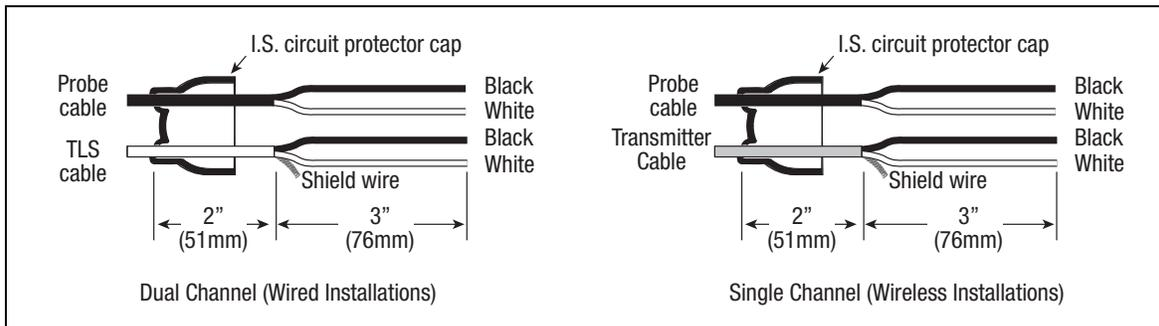

Figure 17. Splice Length Dimensions
1. Cut the soft vinyl epoxy enclosure end cap entrance holes of the appropriate I.S. circuit protector to accommodate each cable diameter. Keep the hole sizes to a minimum. Insert about 5 inches (127mm) of each cable through the openings [Figure 17]. Remove 3 inches (76mm) of the outer jacket from each cable. Trim the insulation from the conductors.